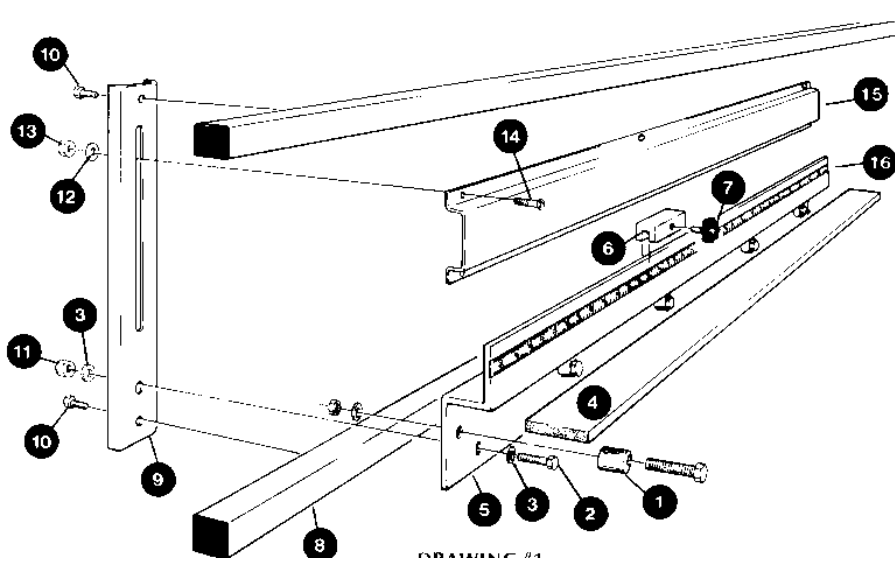

Figure 57: Pre-assembly of Midway Fence
The Midway Fence Accessory is a removable horizontal work piece support that mounts halfway up the tool frame. It allows narrow work pieces to be worked at waist height. The fence consists of left and right fixed brackets that mount to the frame, and removable supports for each side. The accessory contains the components shown in Fig. 57)
1. Lay out the parts shown in Fig. 57 on a horizontal surface (table or bench) for pre-assembly. Note that one end of each fence extrusion is cut at a 45° angle. The units should be pre-assembled so that these beveled ends will fit against the center of the tool frame at final assembly.
3. Tip the top of the rear support brackets (#9 in Fig. 57) under the **upper** horizontal frame member (#8), raise the fence, and push the lower ends of the rear support brackets down behind the **lower** horizontal frame member. The nuts may have to be loosened slightly to perform this step.